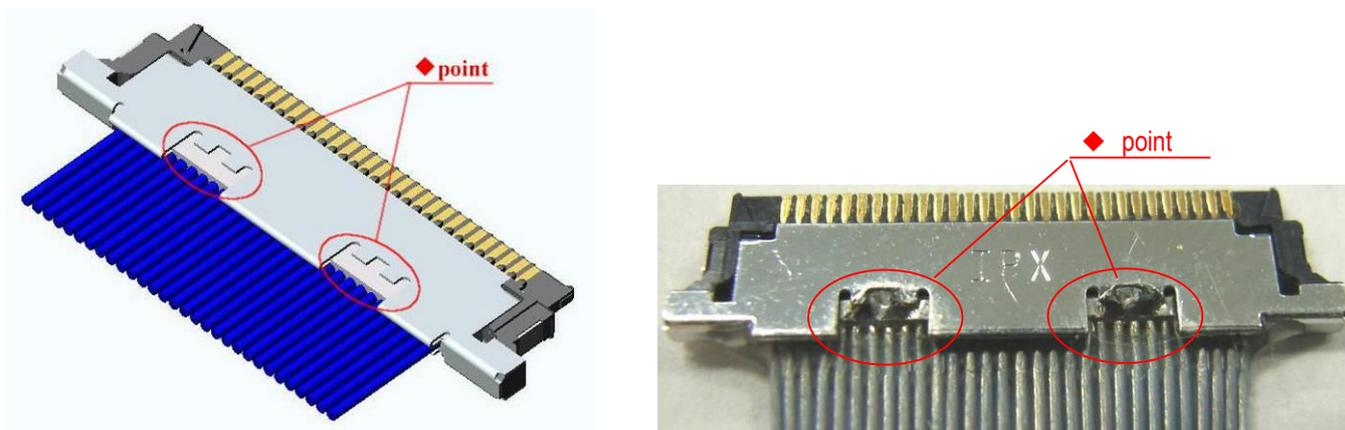

Fig.6 Soldering of SHELL A and GND BAR (Micro-coaxial cable only)
③ SHELL A and GND BAR are soldered with the soldering iron. Micro-coaxial Cable only (Fig.6 ◆ point)